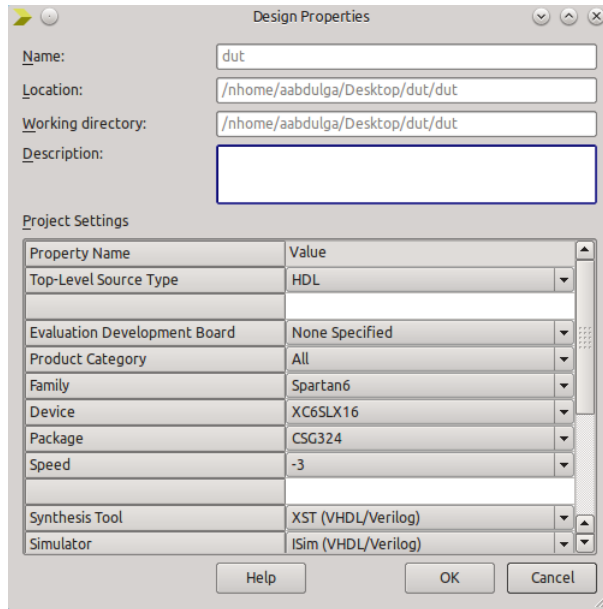

Figure 2.6: DUT Design Properties
1. Create a new project using Xilinx ISE. In the New Project wizard set the Project Settings per the DUT Board used. Make sure to select the values for Family, Device, Package and Speed (See Fig 2.6 for an example).